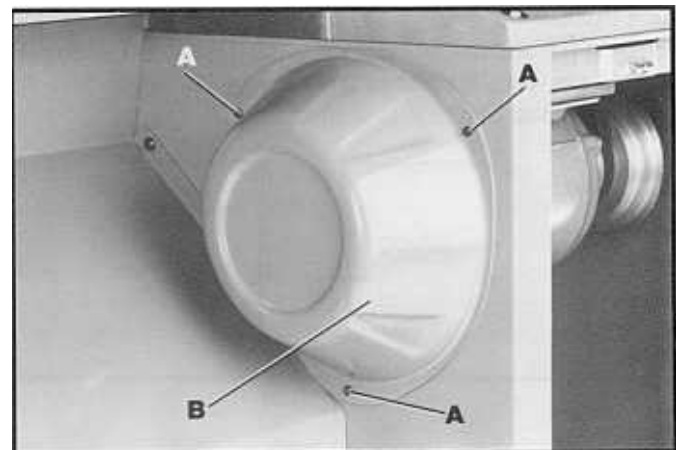

Fig. 16
2. Assemble the motor cover (B) Fig. 16, to headstock base, as shown, using the three screws (A) which were removed in STEP 1.